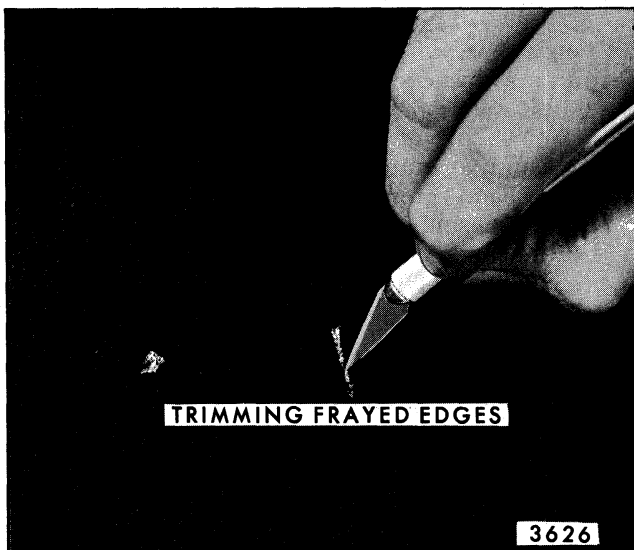

Fig. 8-63-Fabric Roof Cover Repair Trimming
- c. Using a razor knife, trim the damaged area to remove all frayed or damaged edges (Fig. 8-63).